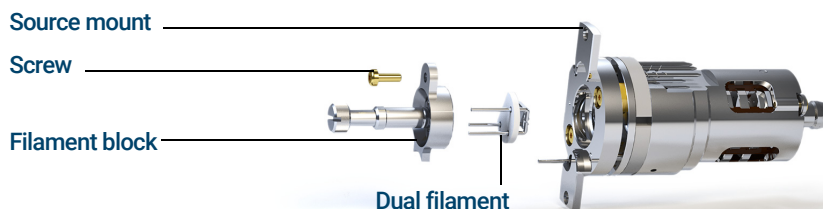

Figure 63. Replacing the dual filament
- 4 Remove the screw securing the filament block to the source mount. (See **Figure 63.**)
- 2 Insert the three pins on the dual filament through the rear of the filament block. (See **Figure 63** on page 192.)